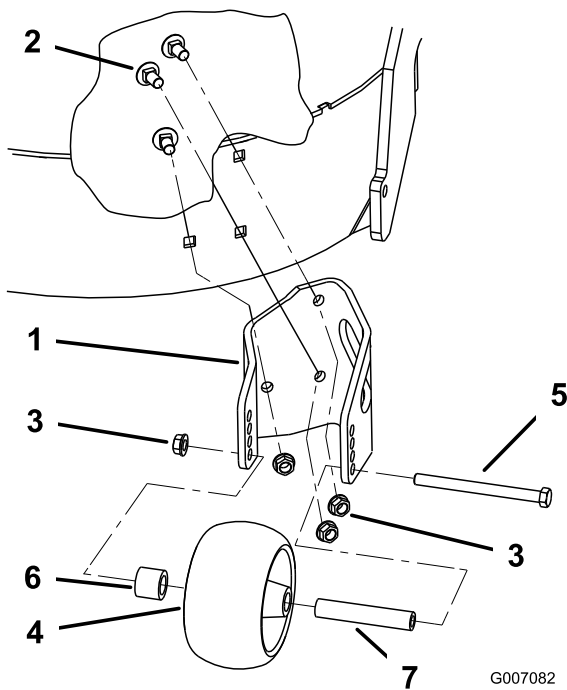

Figure 1
- Install the roller bracket to the mower using 3 carriage bolts (3/8 x 3/4 inch) and flange nuts (3/8 inch) (Figure 1).
1. Slide the long spacer into the anti-scalp roller (Figure 1).
2. Place the short spacer inside the roller hub on the side of the roller with the short hub (Figure 1).
3. Place the roller into the roller bracket and push the bolt (3/8 x 4-1/2 inches) through the bracket, short spacer, and the long spacer/roller assembly at the desired height (Figure 1).
4. Secure the roller with a flange nut (3/8 inch) (Figure 1).